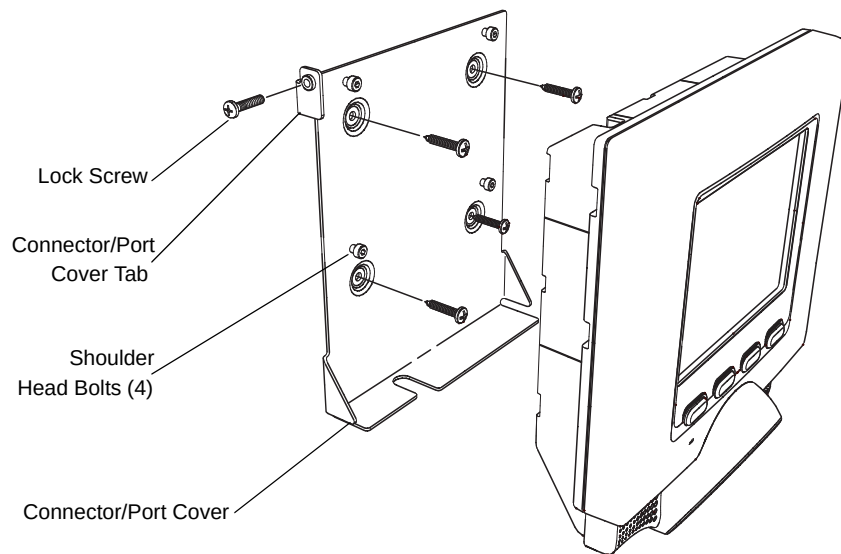
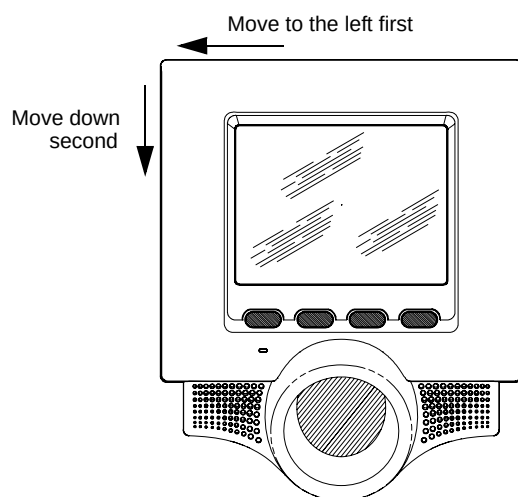

Figure 2-2 Wall Mounting Kit
Figure 2-3 Mounting Directions
2. Place the back housing into the opening, following the instructions in Using the Wall Mount Kit on page 2-3. See Figure 2-2 and Figure 2-3 on page 2-4. Symbol does not provide hardware to support this installation.